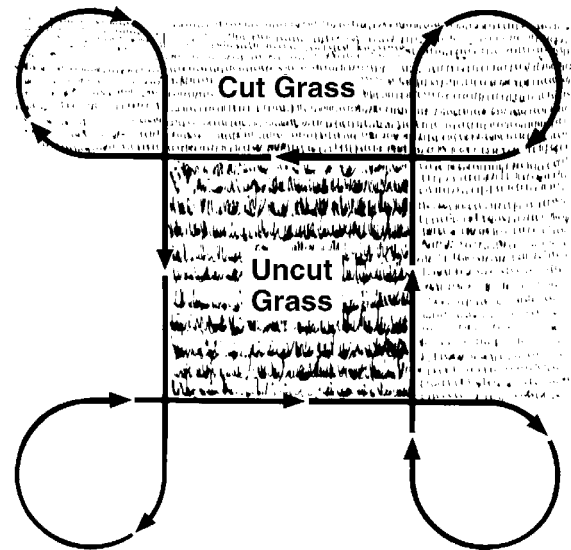

Figure 66
- Follow the mowing pattern shown in Figure 66.